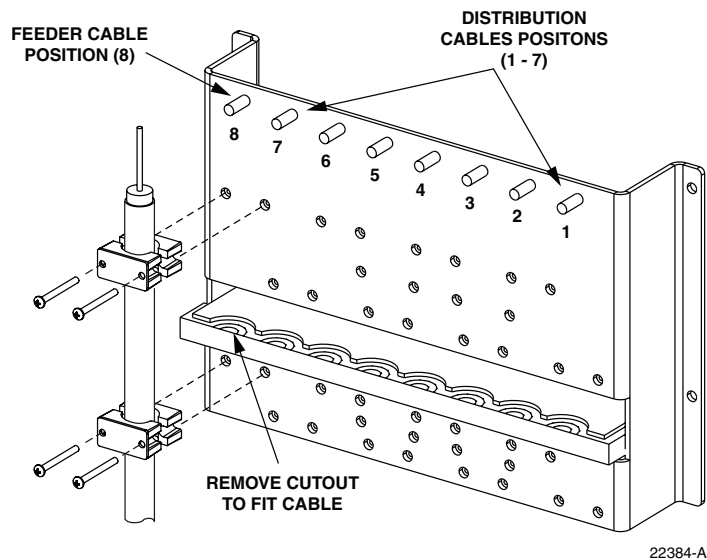

Figure 16. Secure Feeder Cable to Cable Bracket
5. Locate the cable clamping position specified for securing the feeder cable to the cable bracket as shown in Figure 16.